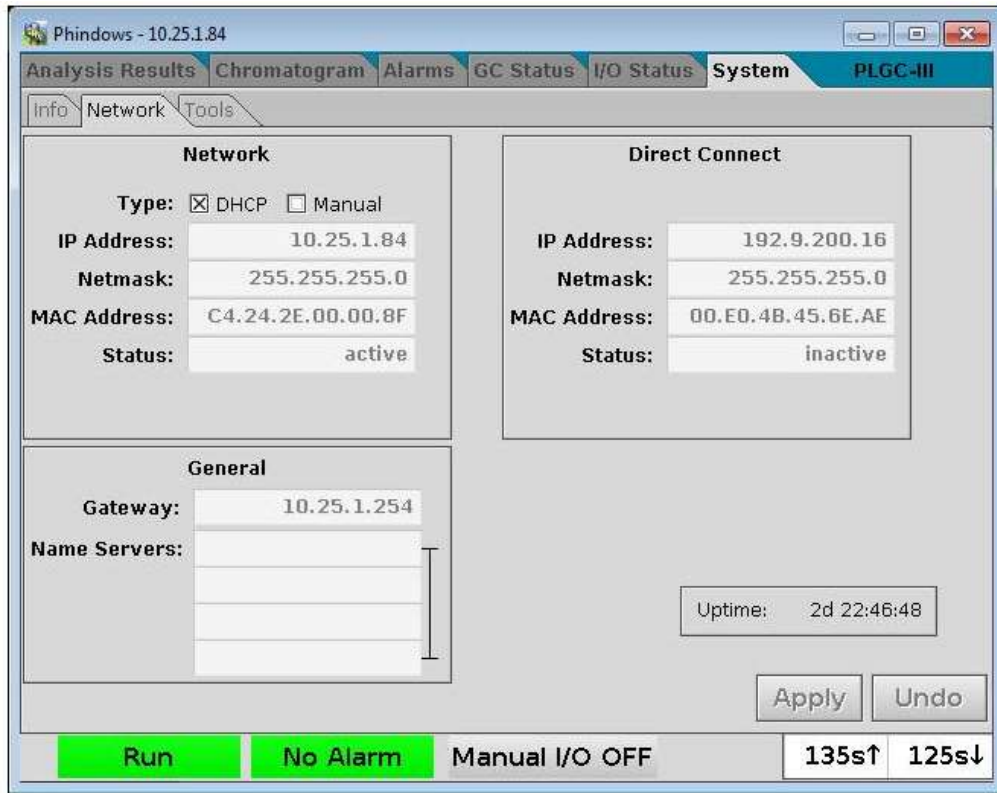

Figure 3-5: Network Sub-panel
c) Access the *Network* sub-panel (Figure 3-5) using the *Next Panel* key on the keypad.